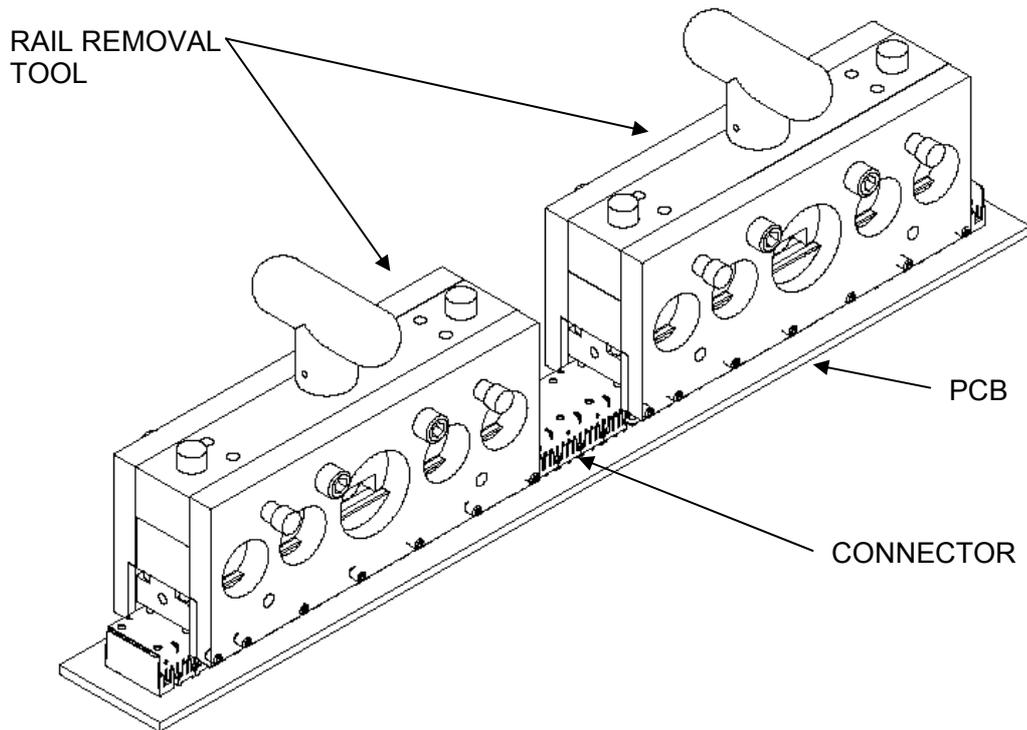

Figure 8.1
After the connector is pressed on the PCB and the aligners screws are installed, remove the rail using the Powermass rail removal tool. See Figures 8.1 through 8.3. See Powermass Rail Removal Tool Instruction Sheet for detailed tool operation instructions.
- * The plastic shroud should be seated and flush to the PCB, a maximum allowable gap of 0.13mm is acceptable (see figure 8.1).